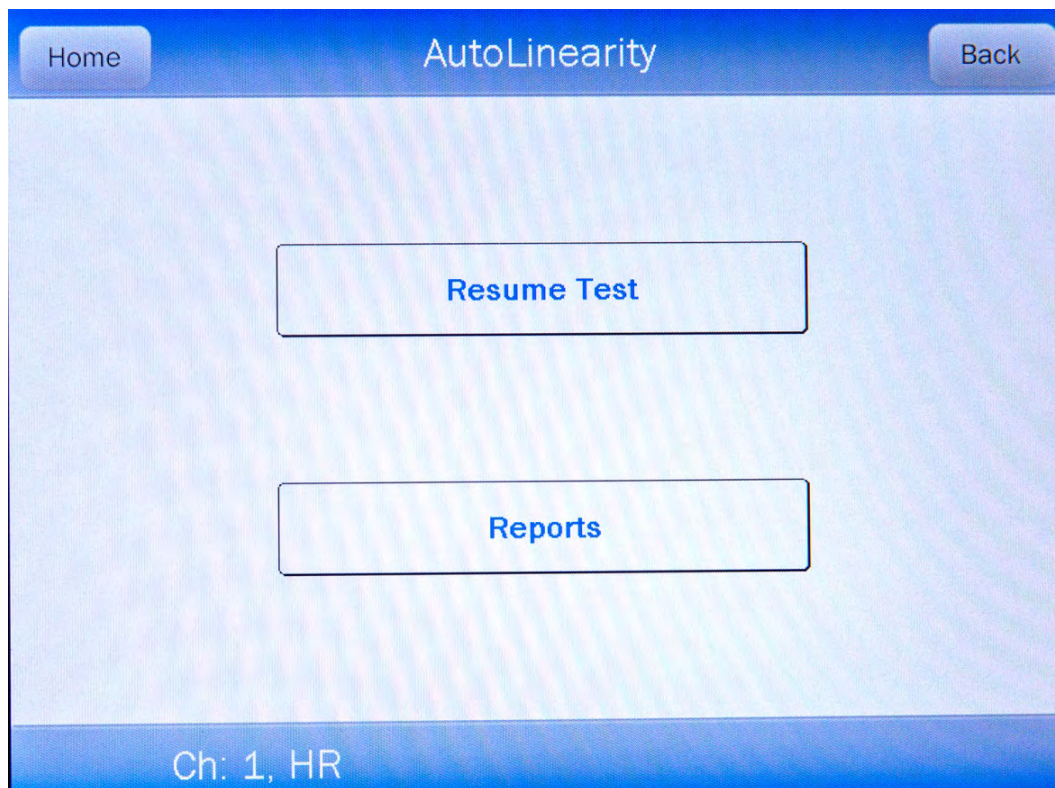

Figure 11-18 AutoLinearity Menu Screen after Pause
Touch the **YES** button to proceed to Figure 11-18 AutoLinearity Menu Screen after Pause. Touch the **NO** button to return to Figure 11-15 AutoLinearity Screen After Measurements Begin.
When AutoLinearity is selected after the test has been paused, Figure 11-18 AutoLinearity Menu Screen after Pause will appear.
Touch the **YES** button to proceed to Figure 11-15 AutoLinearity Screen After Measurements Begin. Touch the **NO** button to return to Figure 11-18 AutoLinearity Menu Screen after Pause.
To view or print a report of a desired AutoLinearity Test, touch the **REPORTS** button from Figure 11-11 Start AutoLinearity Screen or Figure 11-18 AutoLinearity Menu Screen after Pause. Figure 11-26 Search AutoLinearity Tests Screen will appear.
- touch the **BACK** button – Figure 11-11 Start AutoLinearity Screen or Figure 11-18 AutoLinearity Menu Screen after Pause will re-appear or